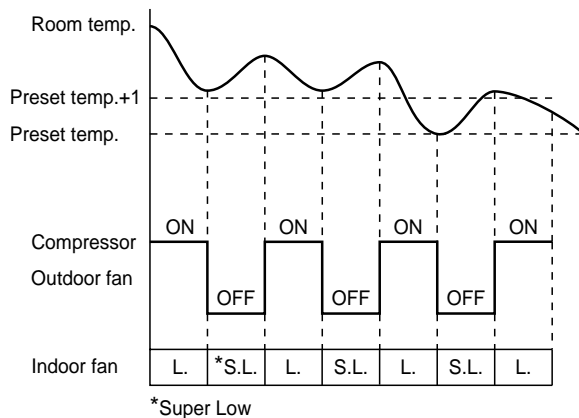

Fig. 7-2-5
- (2) The microcontroller turns the compressor on and off at the regular intervals (4 to 6 minutes). While the compressor is turning off, the indoor fan motor operates in the SUPER LOW position. The pattern of operation depending on the relation between room temperature and preset temperatures is shown in Fig. 7-2-5.